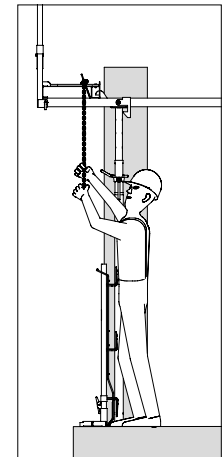

Fig. A9.24
4. Lower the crane lifting gear and unhook it from the erection area (see detail). (Fig. A9.24)